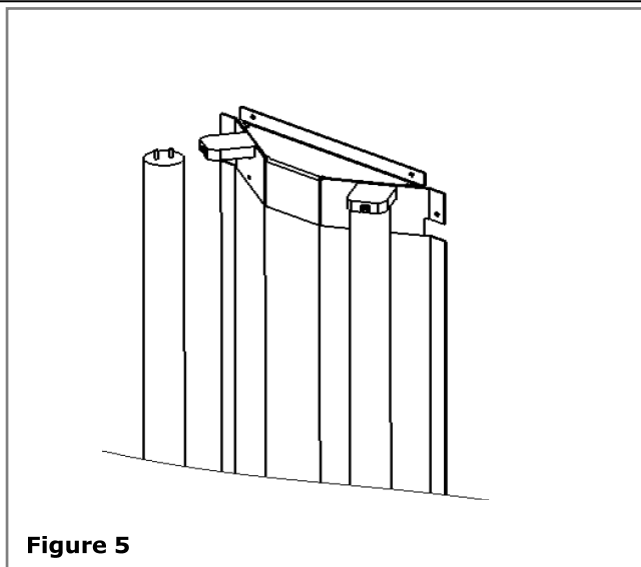

Figure 5
5. Unwrap the lamps and install them by inserting the prongs into the sockets and turning the lamps until they lock into position. **See Figure 5.**